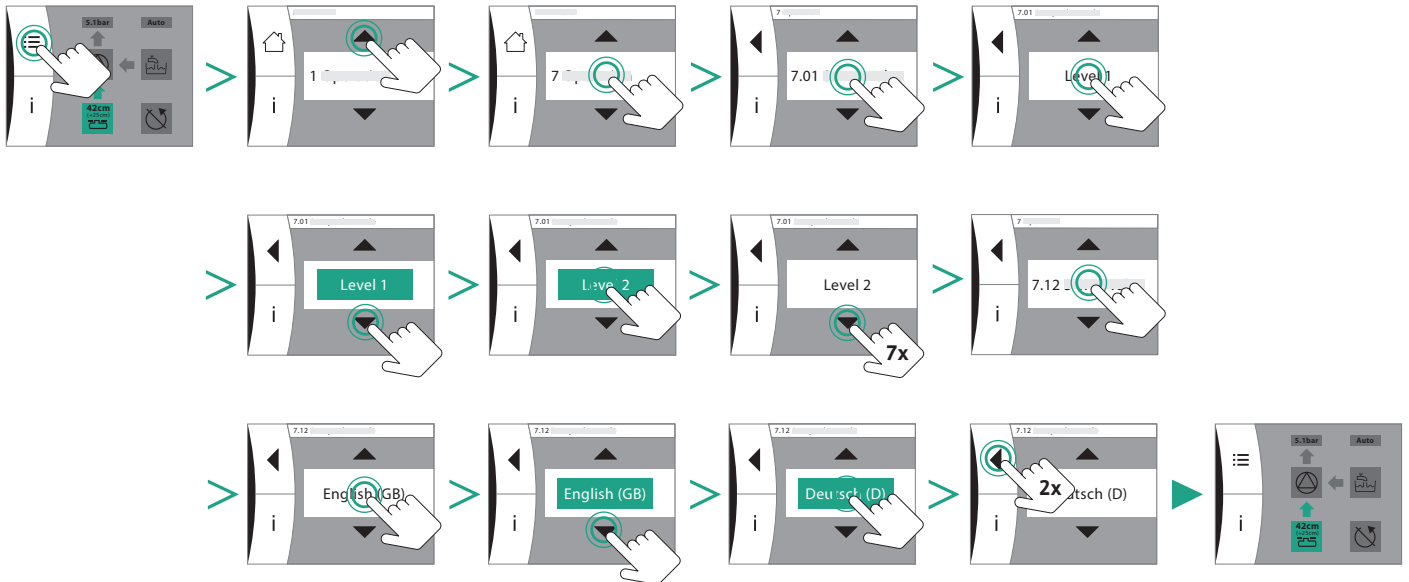

Fig. 23: Setting the language
7. Select the preferred menu language (Fig. 23).